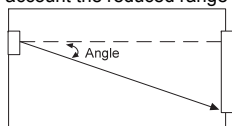

Fig 2: Angle between Wireless VITRON and glass
Verify that the distance between the Wireless VITRON and the furthest point on the protected glass does not exceed the maximum specified range taking into account the reduced range due to angle (see Fig 2).
- **Side wall – mounted** not recommended due to the fact that the Wireless VITRON is not opposite the glass - see range versus angle diagram (Fig 2).